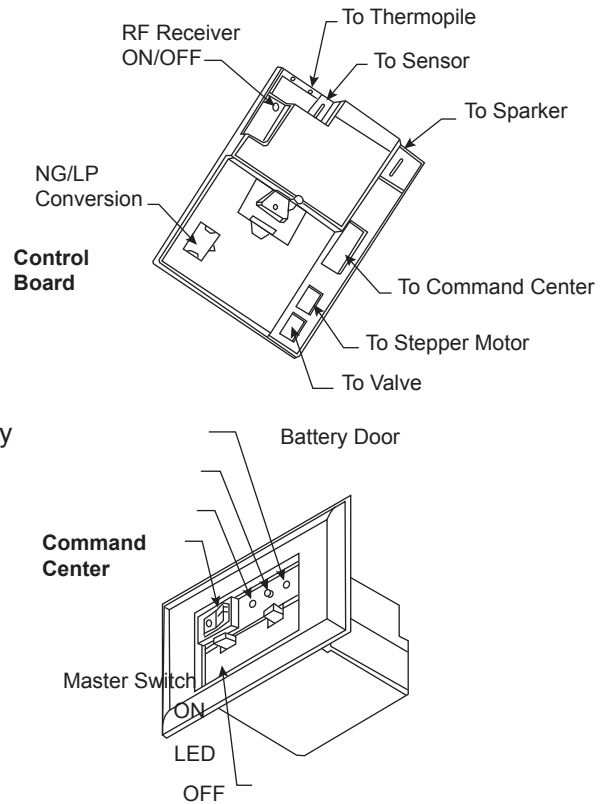

Figure 57 - Signature Command System Components
1. The RF receiver button located on the Control Board must be in the on position before the learn function can begin. Use paper clip to depress button. One beep for RF receiver ON or two beeps for RF receiver OFF will be given as confirmation. Refer to Figure 57 for location.